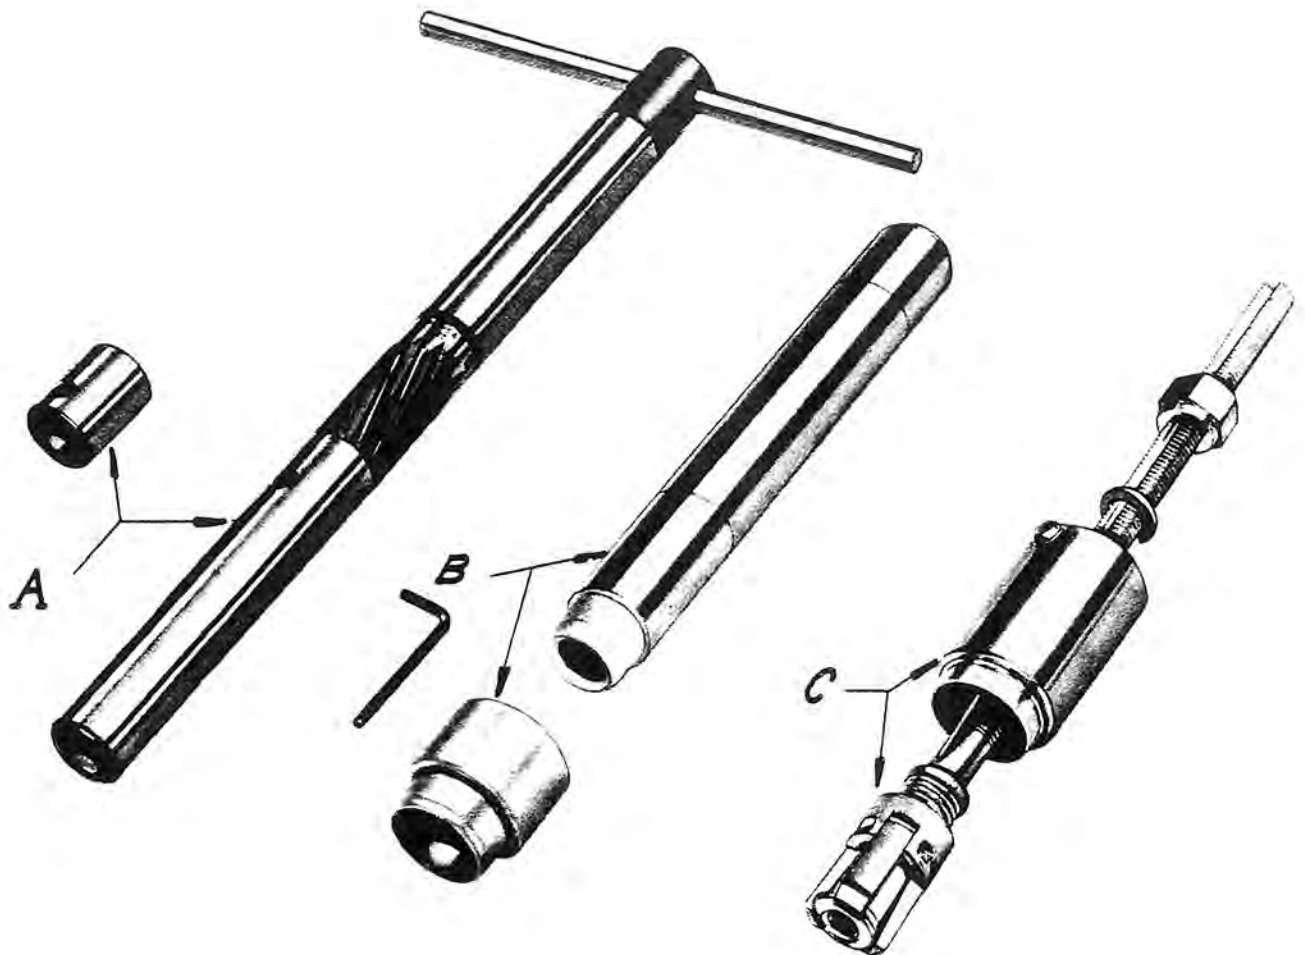

Figure 1. Tool Set Complete, Part No. 96254-54
Insert the fork slider bushing puller and cap (C) Figure 1, into the fork slider a sufficient distance to allow the claws to extend below lower end of the upper fork
Before installing new fork slider bushings thoroughly clean slider bore and lubricate with engine oil. Fork bushing driver and guide (B) Figure 1, is used to install fork slider bushings. Insert the bushing
Figure 4 shows reamer with long pilot attached as required for reaming upper bushings to finish size. The long pilot is of correct size to fit into the unfinished lower bushing and guide the reamer through the upper bushing. CAUTION: Do not drop cutting edges of the reamer into bushing. Slowly start cut, turning reamer clockwise. When removing reamer after bushing is reamed, continue turning clockwise and apply a slight upward pressure to remove reamer from the finished bushing. Install the short reamer pilot, shown under (A) Figure 1., on reamer to ream the lower bushing. The Allen wrench provided with the tool set is used to tighten or loosen reamer pilots on the reamer body.